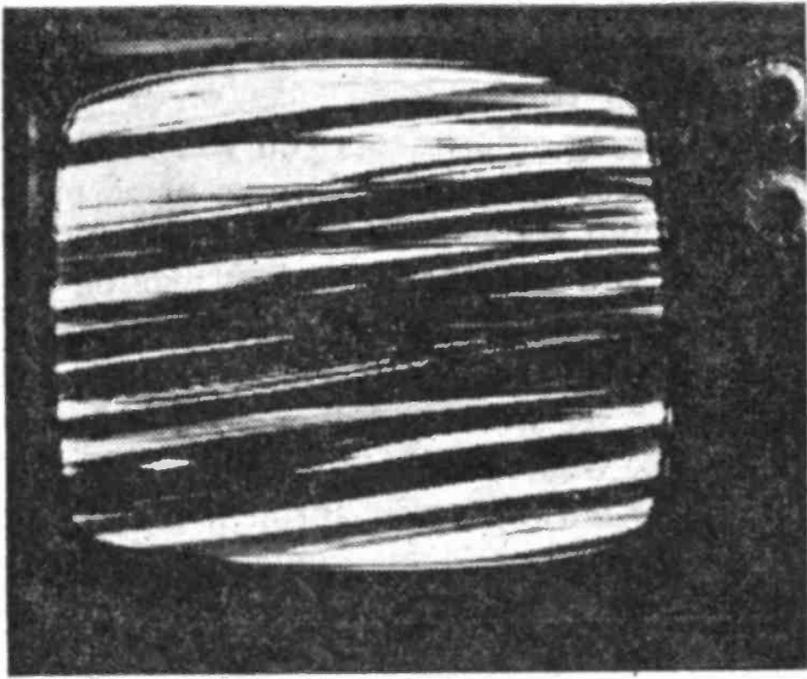

Fig. 2. Horizontal hold should be set so picture is stable after channel is changed.
**Horizontal Hold.** There's much leeway in this adjustment, since TV horizontal circuits are semiautomatic. A grossly misadjusted control will produce slashing diagonal bars (Fig. 2). As the knob approaches correct setting, the number of bars diminishes